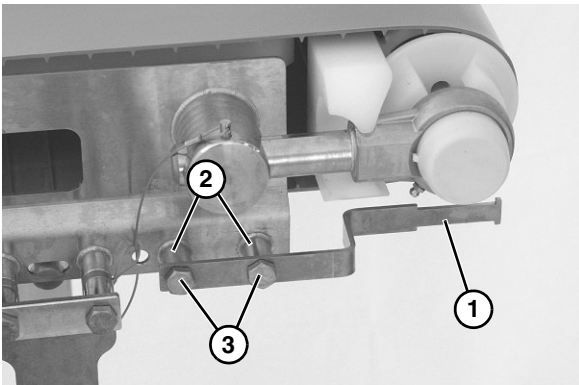

Figure 27
1. Loosely bolt limiter support plate (**Figure 27, item 1**) to conveyor frame stand off posts (**Figure 27, item 2**). Repeat on opposite side.
3. Adjust limiter to within 1/32" from belt, and tighten screws (**Figure 27, item 3**).